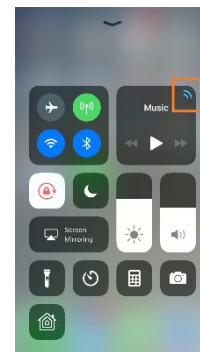

Figure 50.
3. Once the phone begins to ring, the source display will indicate that the Processors are the active audio source (Figure 50).